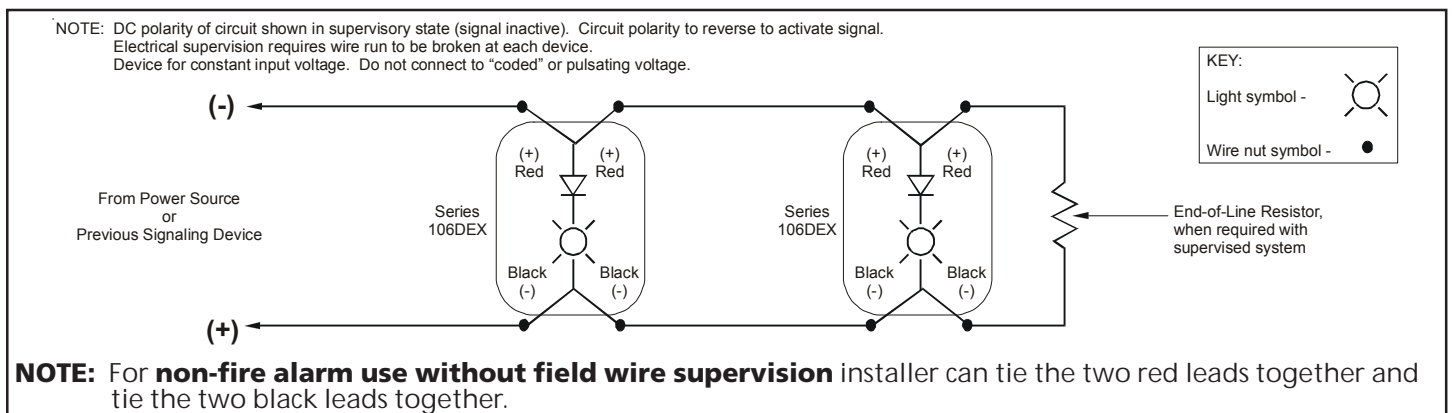

Figure 4. Wiring Diagram
4. Connect the two red positive (+) and two black negative (-) wire leads to the supervised circuit in accordance with Figure 4.